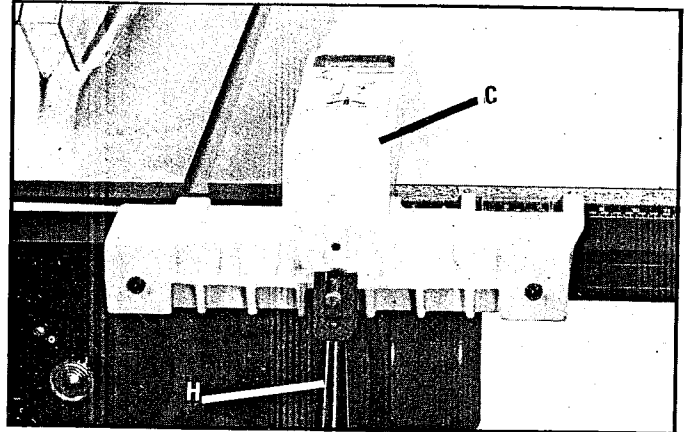

Fig. 37
3. Lock the fence body (C) to the guide rail by pushing down on the handle (H) as shown in Fig. 37.